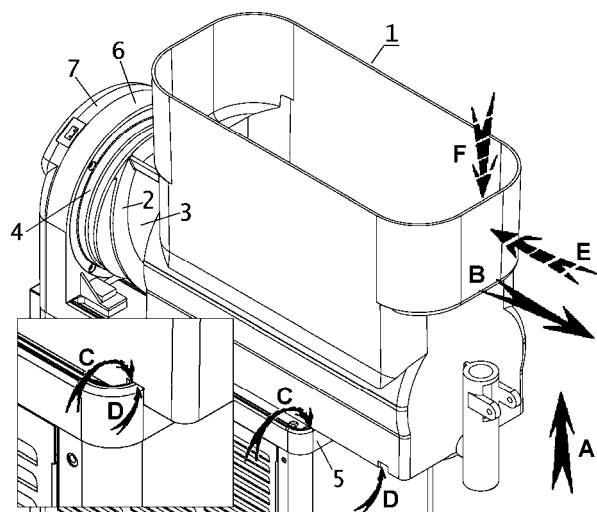

Figure 4
- 1.3. To remove the bowl, (**Figure 4**) push bowl upward (**arrow A**) taking the bowl out of the gauge notch (**arrows C and D**) and then pull the bowl forward off of the bowl gasket.